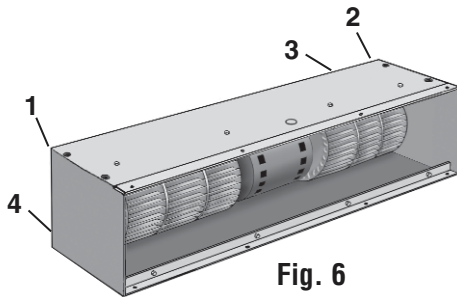

Fig. 6
2. The rear side of the air curtain has four (4) mounting holes that can accept (4) four $\frac{3}{8}$ " mounting bolts or lag screws with washers. Place the Air Curtain into position, above the door opening. Using a pencil, mark the (4) four mounting holes. (See Fig. 6) Remove the unit. If using lag screws, pre-drill the mounting holes. If using mounting anchors, drill the holes and place the anchors.